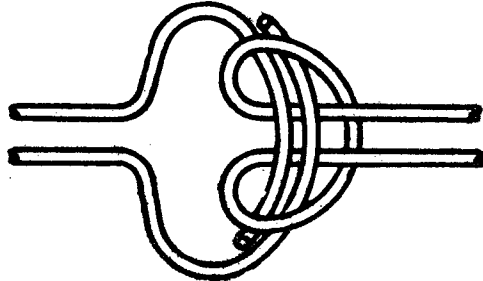

FIG. 1. JOINTING LACING TWINE.
- 4.1 Safety Precautions during Cable Lacing. Serious accidents such as a fall from a working position, an abrasion to the person, or a puncture of the face or body by the lacing needle, can occur due to the breakage of the lacing twine under tension. To avoid such accidents the operator must be safely sited at the operational position. Excessive length of lacing twine must not be used and frequent examinations of the twine made to detect fraying. If this occurs, the twine must be cut away and a new piece tied in as in Fig. 1. Care must be taken to avoid breaking the needle when drawing the string through the cable block. The needle must be pulled at right angles to the cable block and must not be used as a lever to pull the twine.